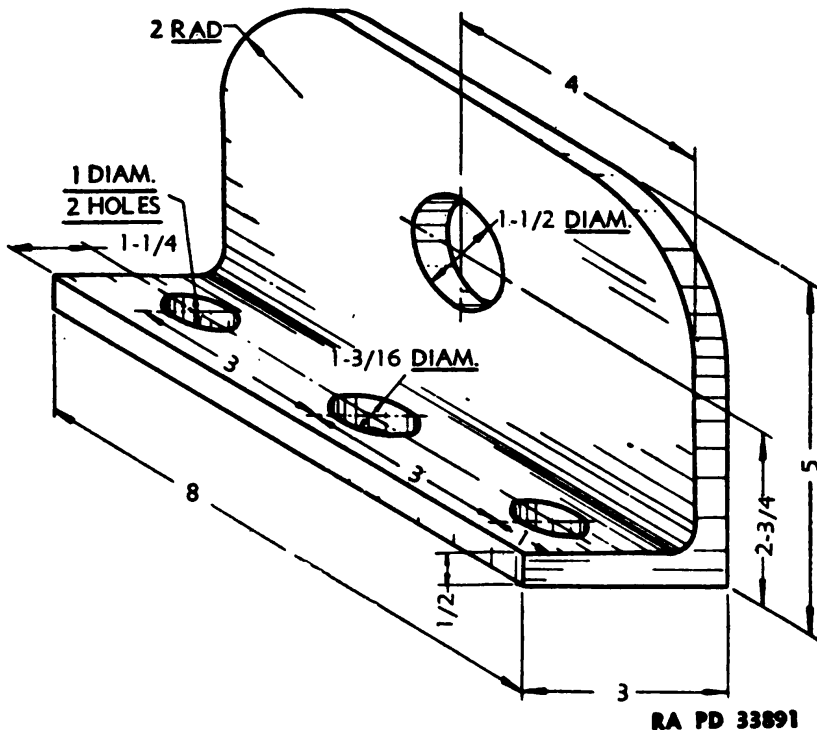

FIGURE 40.—Bracket.
(2) Disconnect fuel line at the transfer pump and throttle control rod at governor housing.
(3) Block tracks front and rear so the tractor cannot move.
(4) Engage flywheel clutch to hold clutch center disk in position. Then when the engine is installed, the teeth on the center disk will line up with the teeth in the flywheel.
(5) If a hoist is used, it should be of at least 2-ton capacity. If two chain hoists are available, removing and replacing the engine can be simplified by placing one on either side permitting the engine to be rotated better to align the holes in the transmission case with those in the bell housing.
b. (1) Another method can be used by making brackets similar to the one shown in figure 40. Attach the brackets, one at the front of the front head and one at the rear of the rear head. The chains or cables used should be so placed that the engine will remain at the same angle as the transmission case when the bolts are removed. This is necessary so as to prevent damage to the pilot bearing for the upper transmission shaft. Raise the engine, place a heavy bar across the track roller frames under the front of the transmission case, then lower the engine until the transmission case just rests on the bar.